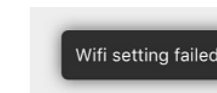

fig.10
3. Distribution network failed (Fig. 10)